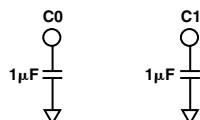

Figure 18. External Filter Capacitor Connections
Figure 18 illustrates signal-path filtering capacitors, C0 and C1. The AD1849K must use 1.0 μ F capacitors.
- The Analog Devices AD1849K uses two external capacitors to complete its internal input filter as shown in Figure 18. The CS4215 calls the two pins on the AD1849K for these capacitor connections, “no connects.” By laying out a board with these capacitors, either chip will work.